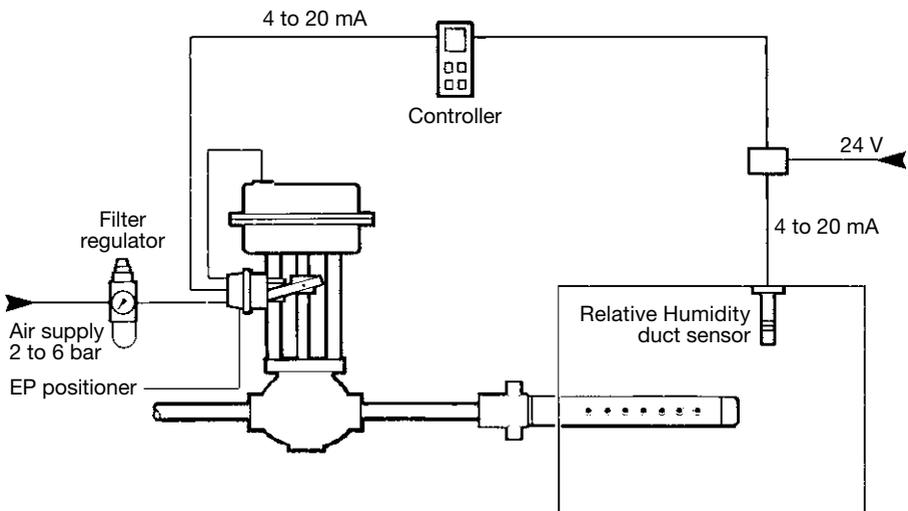

Fig. 20 Typical pneumatic control valve with positioner
3.10.4 Figure 20 shows a typical pneumatic control system, incorporating a positioner.